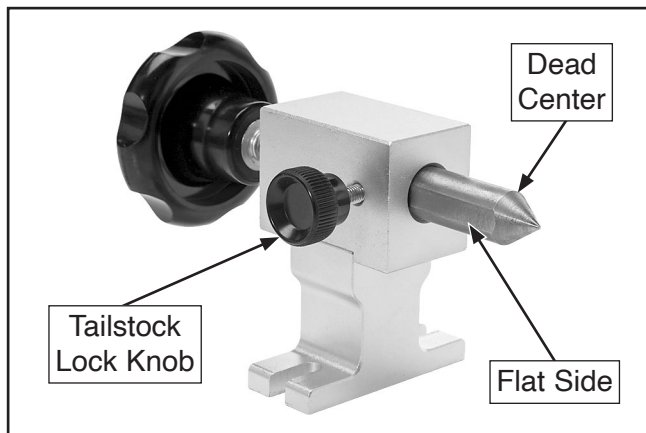

Figure 21. Location of tailstock components.
4. Loosen tailstock lock knob and verify lock knob is aligned with flat side of dead center to ensure center will not freely rotate under load (see **Figure 21**).